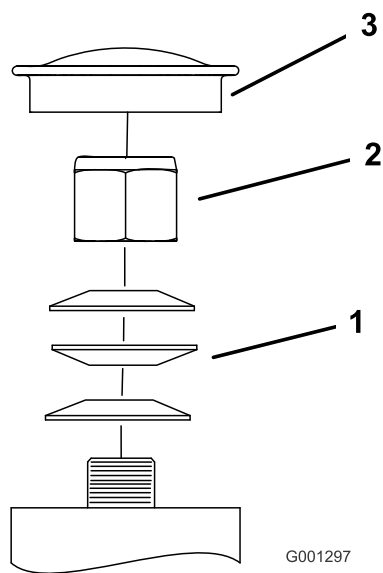

Figure 42
3. Remove the dust cap from the caster and tighten the locknut (Figure 42).
4. Tighten the locknut until the spring washers are flat, and then back off a 1/4 turn to properly set the preload on the bearings (Figure 42).
Important: Make sure that the spring washers are installed correctly as shown in Figure 42.
5. Install the dust cap (Figure 42).